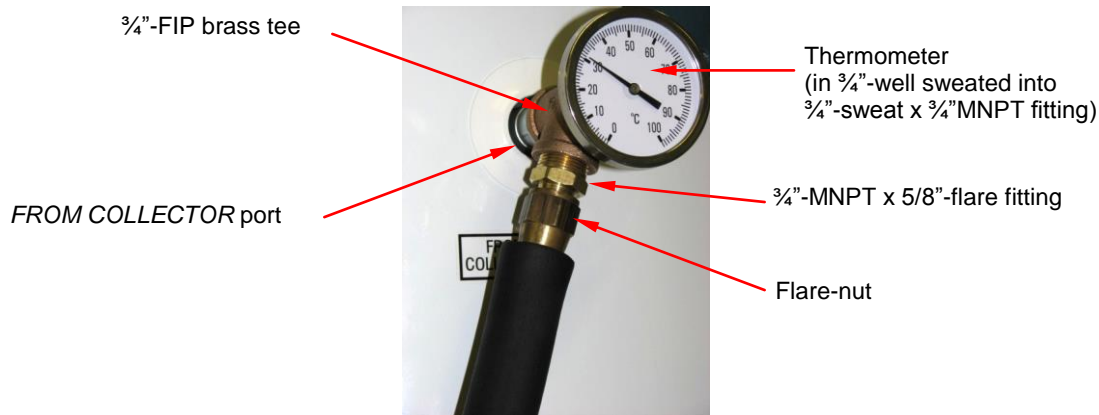

Fig.4.3.3 – Thermosiphon riser includes brass tee with thermometer and L-soft copper tube assembly.
3. Thread side opening of $\frac{3}{4}$ "-FIP brass tee onto FROM COLLECTOR nipple. Tighten, such that middle opening of tee points to top port of Energy Station upper manifold (Fig.4.3.3).
7. Thread flare-nut over fitting. Tighten flare-nut to secure water tube (*Fig.4.3.3*). Do not use thread sealant or Teflon tape. Do not over-tighten as soft-copper flares may be damaged.
- Remove thermometer from $\frac{3}{4}$ "-sweat thermometer well. Solder well into $\frac{3}{4}$ "-MNPT x $\frac{3}{4}$ "-sweat fitting. Thread assembly into remaining port of *FROM COLLECTOR* tee and tighten. Insert thermometer into well (*Fig.4.3.3*).